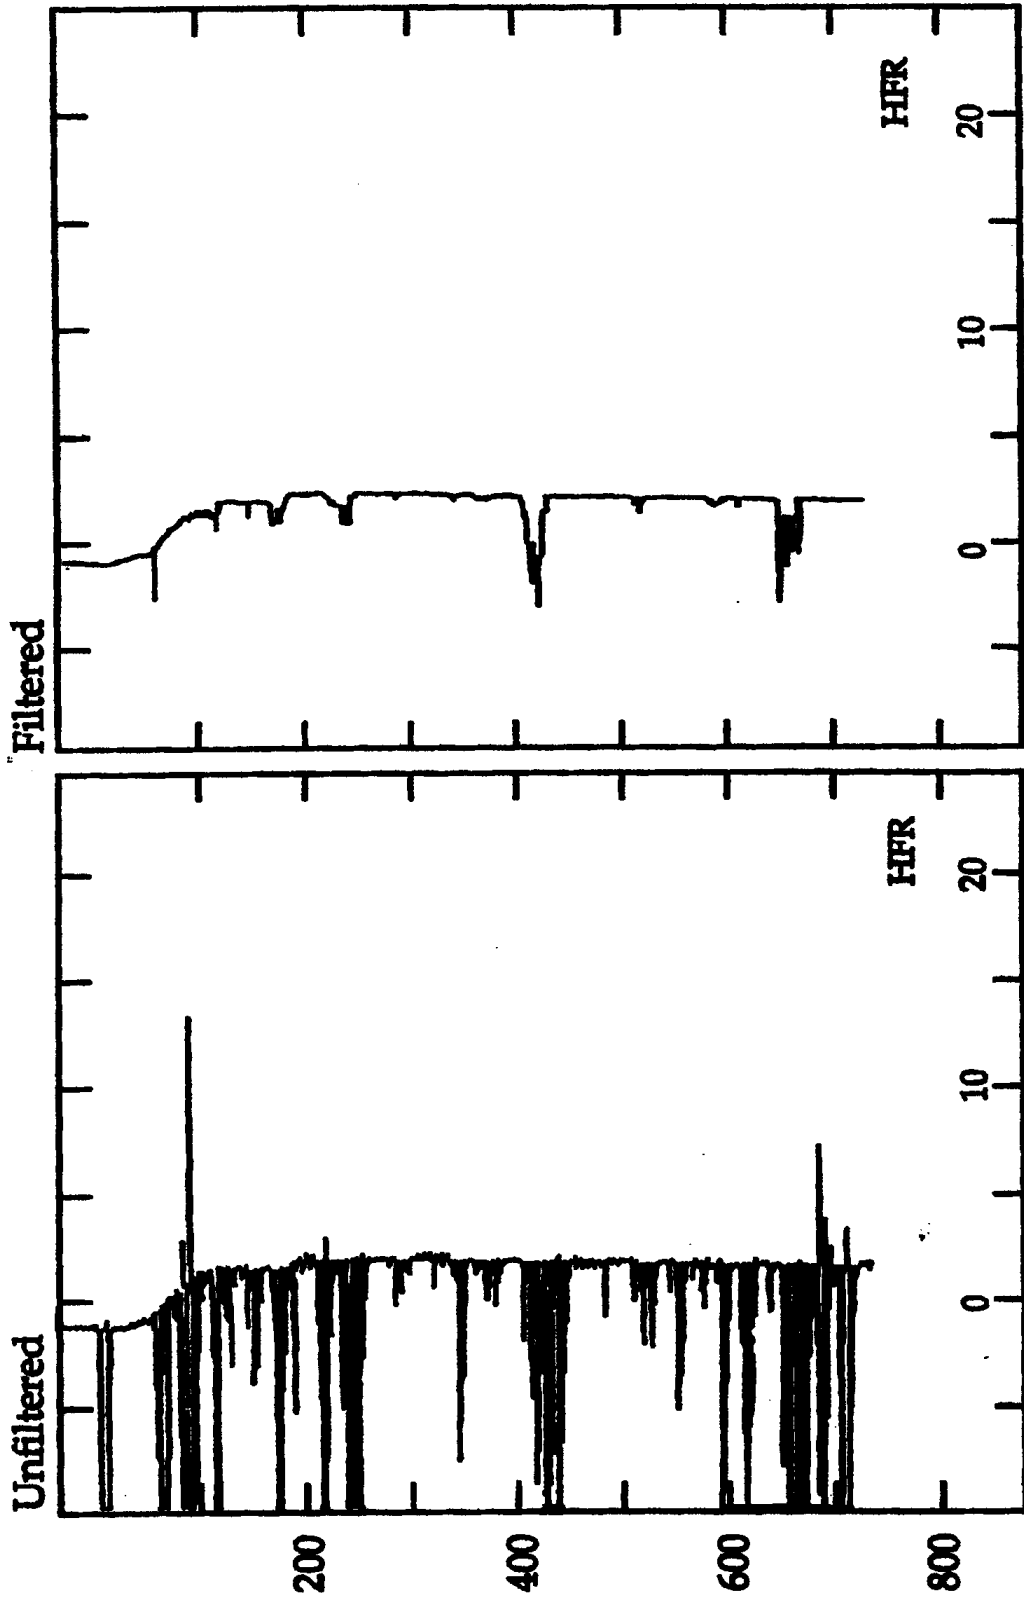

Figure 8e. High Frequency Reject (HFR)
- Fig. 8e:** The HFR flag is used if there is severe interference or if filtering fails and the temperature records are considered to be corrupt.